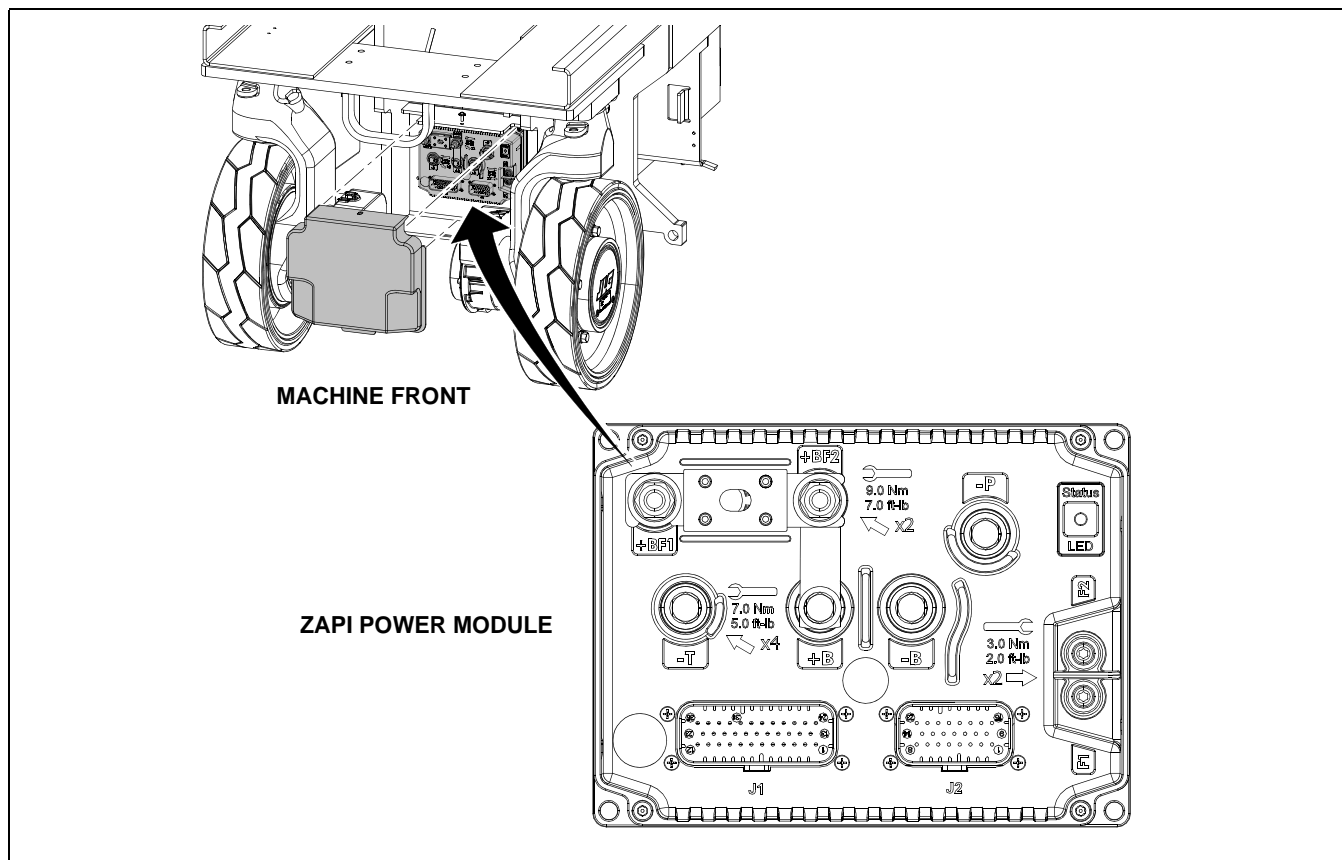

Figure 3-33. ZAPI Power Module Location
The Sevcon Power Module, P/N-1600346 was replaced by the ZAPI Power Module (See Figure 3-33.) on machines built starting in mid year 2010.
The power module is located behind a protective cover at the front of the machine as shown in Figure 3-33., ZAPI Power Module Location. Use the following instructions when replacing the power module.
5. When installing the new power module, be sure that the terminals are oriented as shown in Figure 3-33.